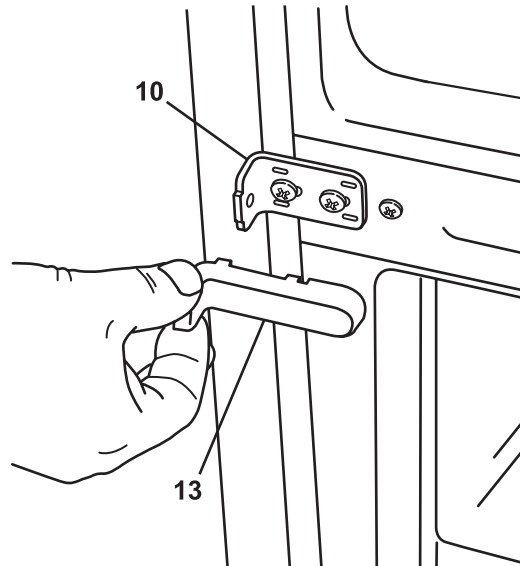

Figure 21
8. Remove the center bracket cover (Fig. 21, 13) and then the center bracket (Fig. 21, 10).